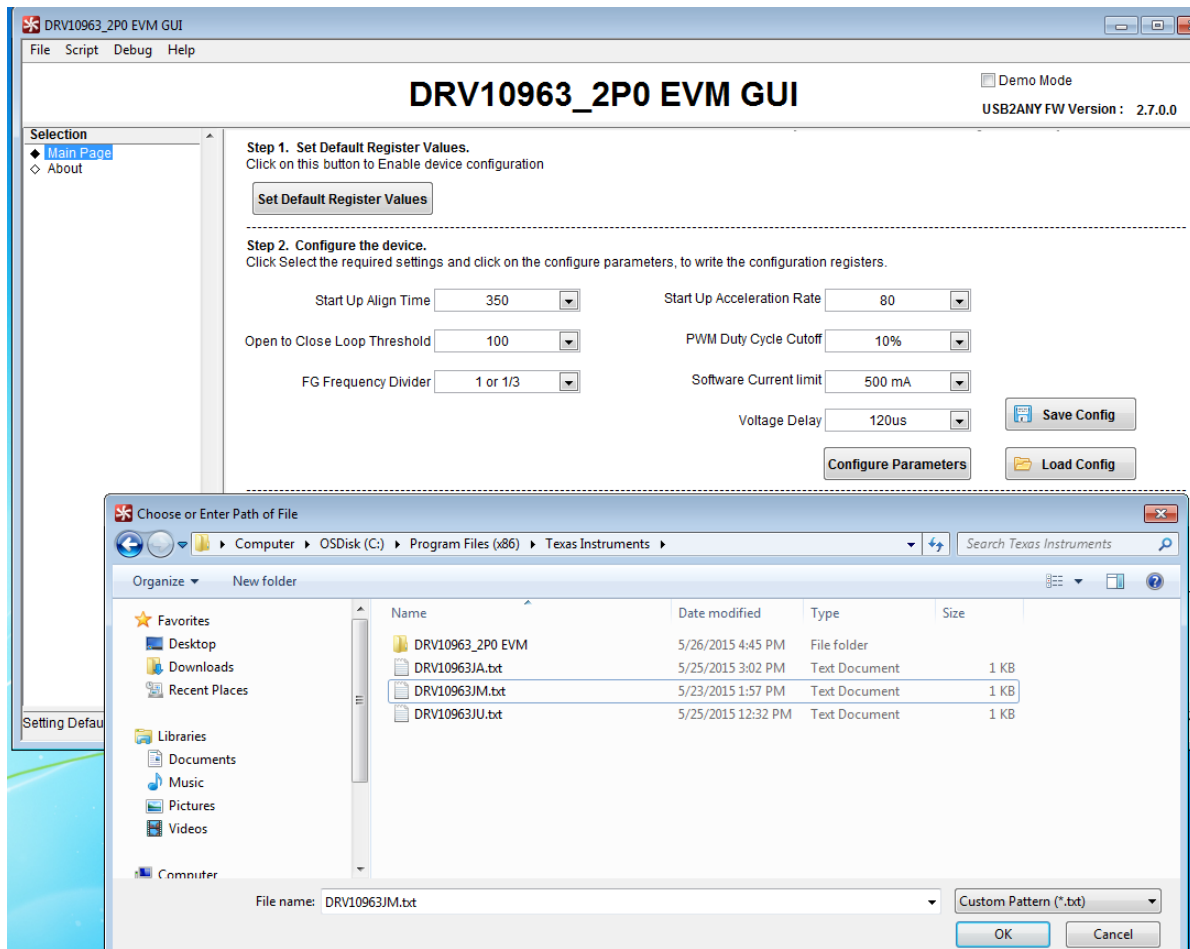
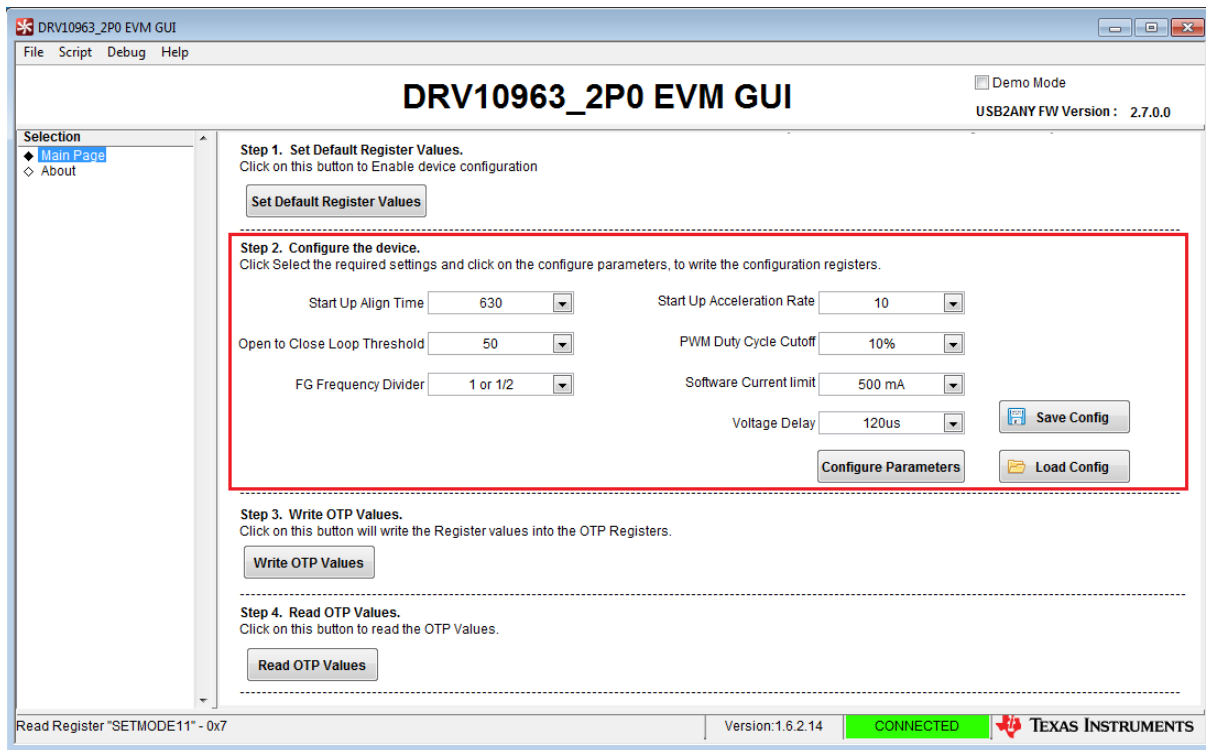

Figure 7. Loading DRV10963JM Configuration Parameter to Device
Figure 8. DRV10963JM Configuration Parameter
6. To test motor performance with the DRV10963JM version, short the jumper J1 back. This will stop the motor. Referring to Figure 7, left-click the “Load Config” button, browse to the GUI installation directory for 3 .txt files in your PC and select DRV10963JM.txt. This will load the register with configuration parameters corresponding to DRV10963JM. Refer to Figure 8 to check configuration parameters corresponding to the DRV10963JM version. In same way, load and configure other versions of DRV10963 to test the performance. To enable motor spin, open the jumper J1 on the motherboard and use POT R-17 for speed control.